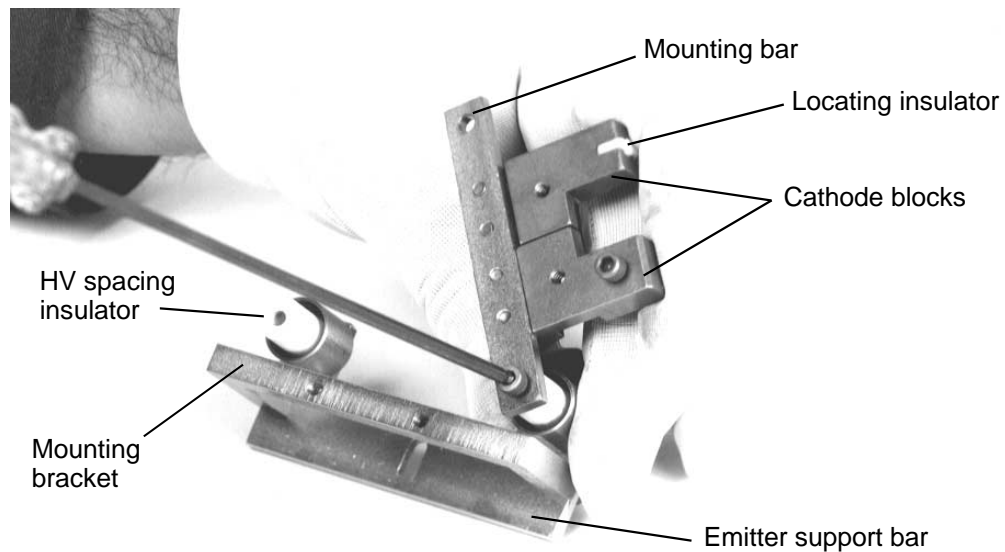

Figure 4-6. Removing the cathode blocks and mounting bar from the HV spacing insulators
- 5 Remove the screws that secure the mounting bar to the HV spacing insulators (see Figure 4-6).
| 21 | Reattach the mounting bar to the other ends of the HV spacing insulators (see Figure 4-6). |